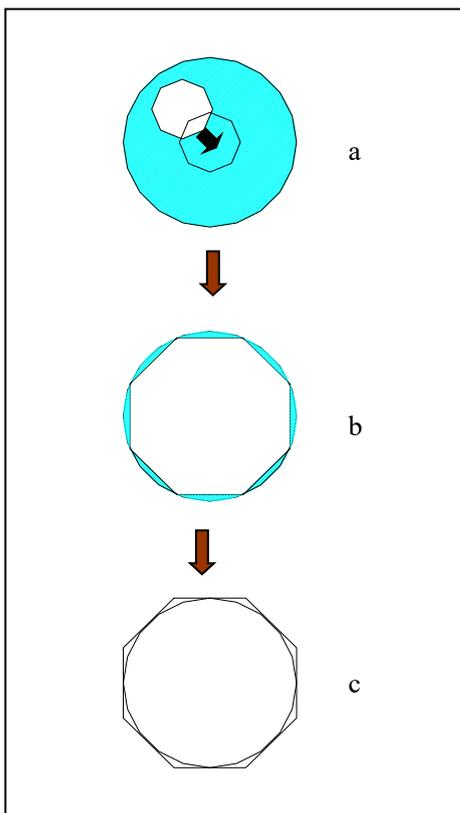

Fig.23
3-19 Diaphragm against mid-field view (Fig.23, 24)
5. Pull the lever ③ out of the field diaphragm on the lighting device until the aperture diaphragm is at its minimum diameter.
6. Use a hexagonal wrench to insert the two field diaphragm into the center screw ②, adjust the image to the aperture to be located in the center of the field of view (Fig.23 shows the adjustment process).
7. Push the pull rod ③ along the aperture of the field and open the aperture until the image of the aperture and the perimeter of the field of view are inscribed. If the image is not correctly aligned, re-align until it is centered.
8. Open the wide field of view diaphragm so that the image is exactly connected to the field of view (c in Fig. 23).